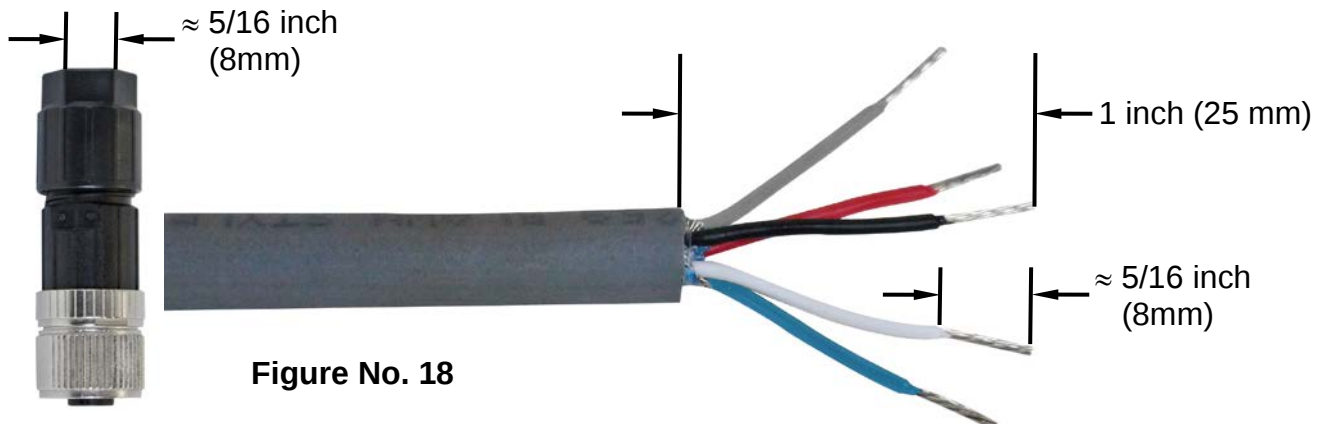

Figure No. 18
3. Next, referring to Figure No. 18, remove approximately 5/16 inches (8 mm) of insulation from each of the five wires. **NOTE:** The hex part of the black plastic cable clamp is approximately 5/16 inches (8 mm) and can be used as a guide for stripping the wires.